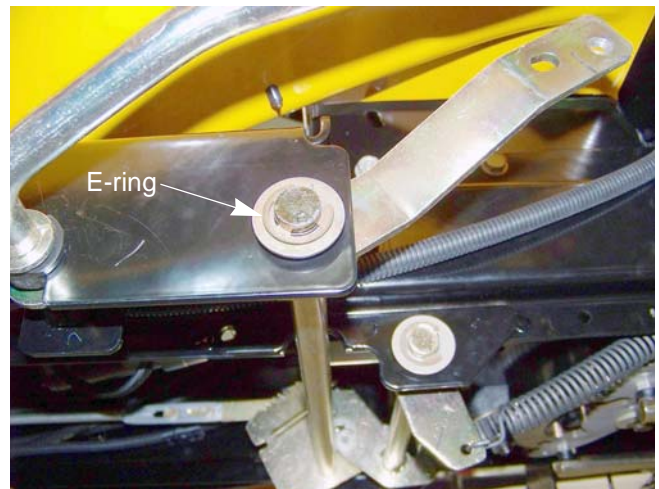

Figure 5.22
4. Remove the E-ring and hex bushing from each end of the drive pedal shaft. See Figure 5.22.